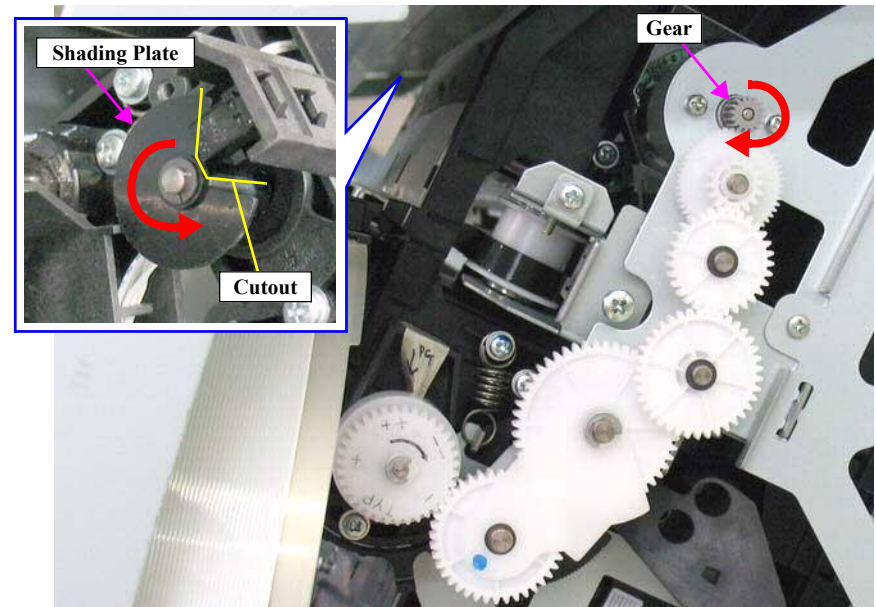

Figure 4-76. Rotating the Shading Plate
7. Rotate the gear shown in **Figure 4-76** until the cutout of the shading plate comes in between the sensor's detector as shown in **Figure 4-76**.